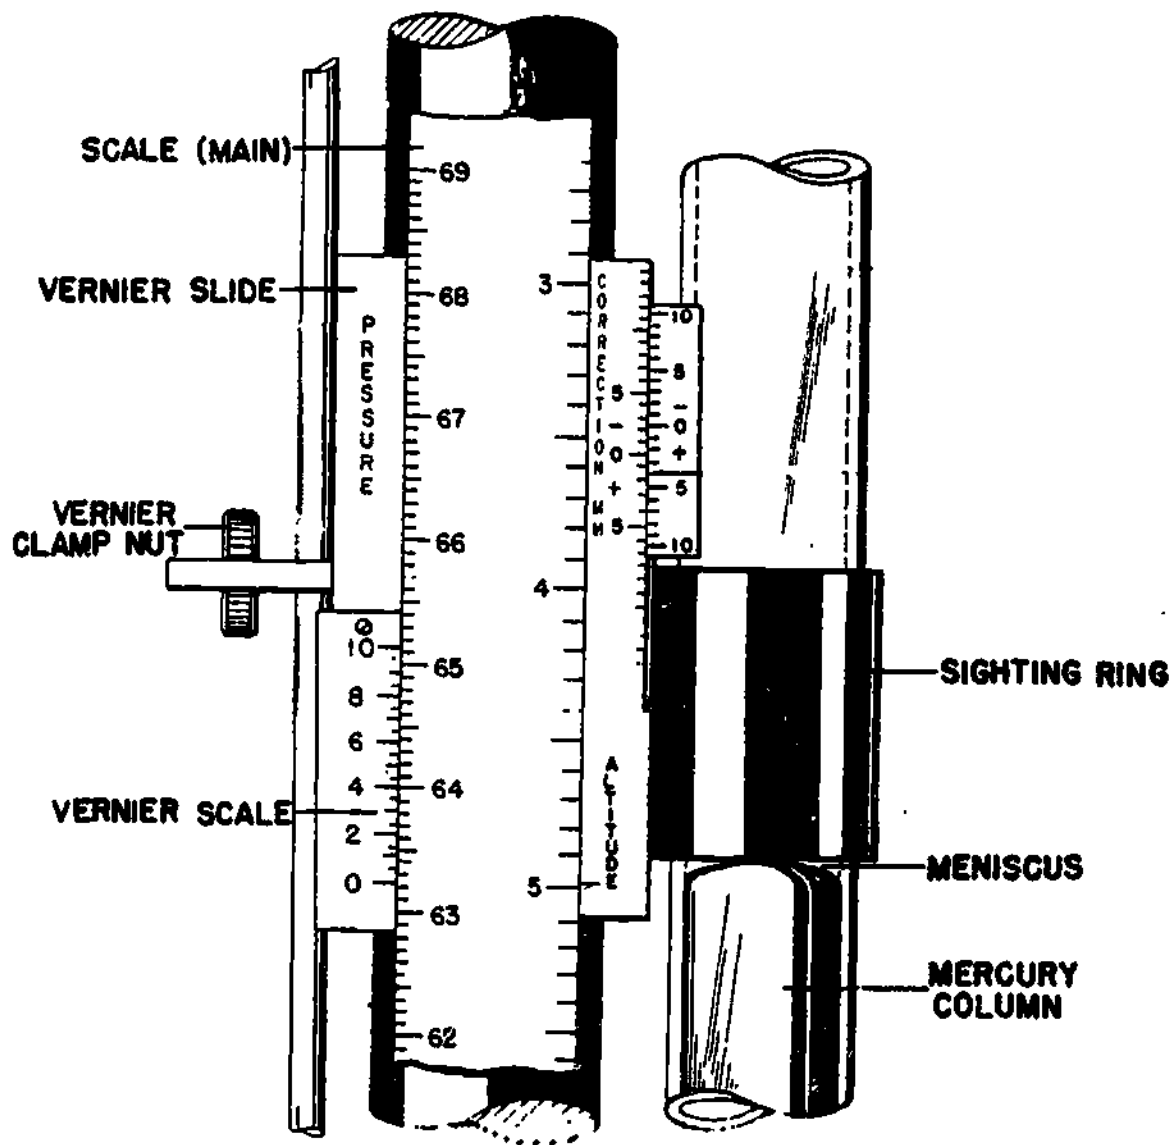

Figure 3.
4. The barometer is now correctly adjusted and ready to use. Tap the table to aid in adjusting the meniscus shape of the mercury in the tube. Unlock the vernier clamp nut and adjust the vernier slide assembly until the lower edge of the sighting ring is in line with the top of the mercury column. Use figure 3 as an aid for setting the sighting ring correctly.